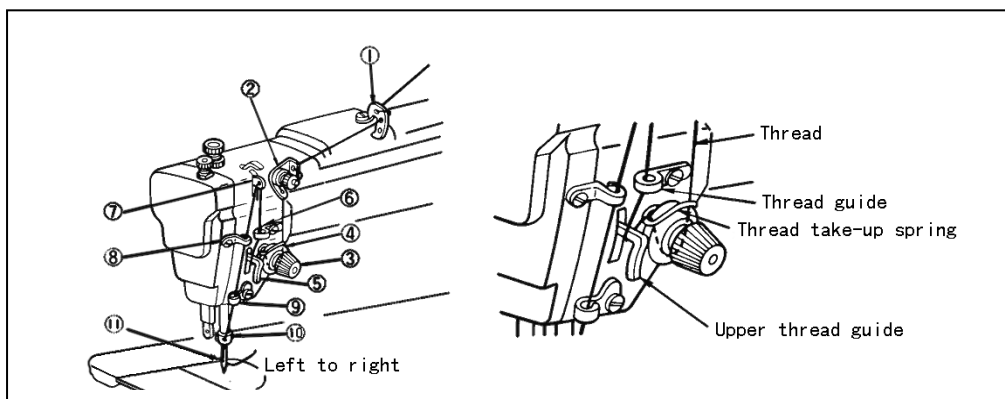

Fig.15
18、 How to route the upper thread (Fig.15):